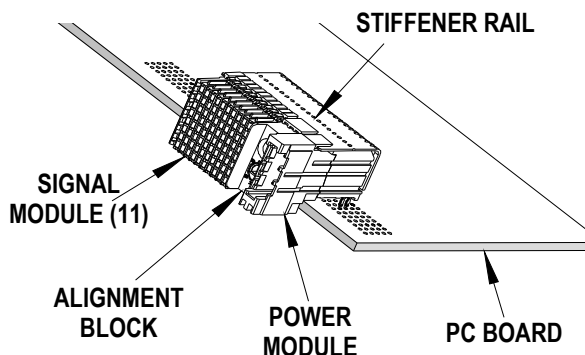

Figure 2-8
2. Start the assembly into the board by hand. Check for proper seating and bent pins under the assembly after pre loading on to the P.C. board. See Figure 2-8.